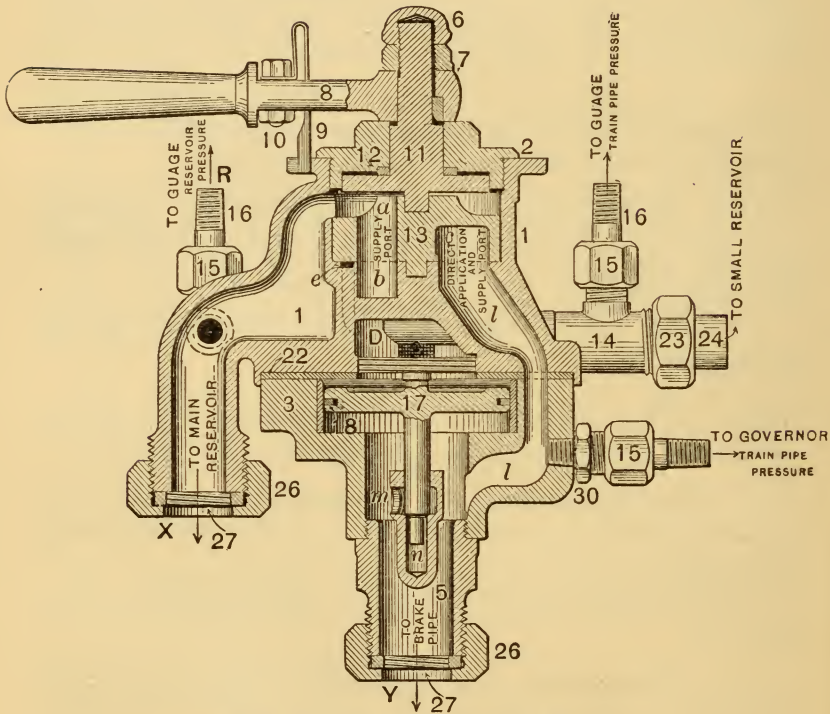

FIG. 31.—D 8 BRAKE VALVE.
A. With the handle 8 of the valve (Fig. 31) in full release position, the air coming from the main reservoir enters the engineer's valve at *X*, passes on top of the rotary, through port *a* of the rotary 13, port *b* of the rotary seat and into cavity *c* of the rotary, thence through port *l* and into the train line at *Y*.
exposed to cavity *c*, and as air passes into the train line it also passes up into cavity *c* and through port *g* (See Figs. 31 and 33) into cavity *D*, or the little drum.
A. The pump governor, which is actuated by train-line pressure. (See 15, Fig. 31.)